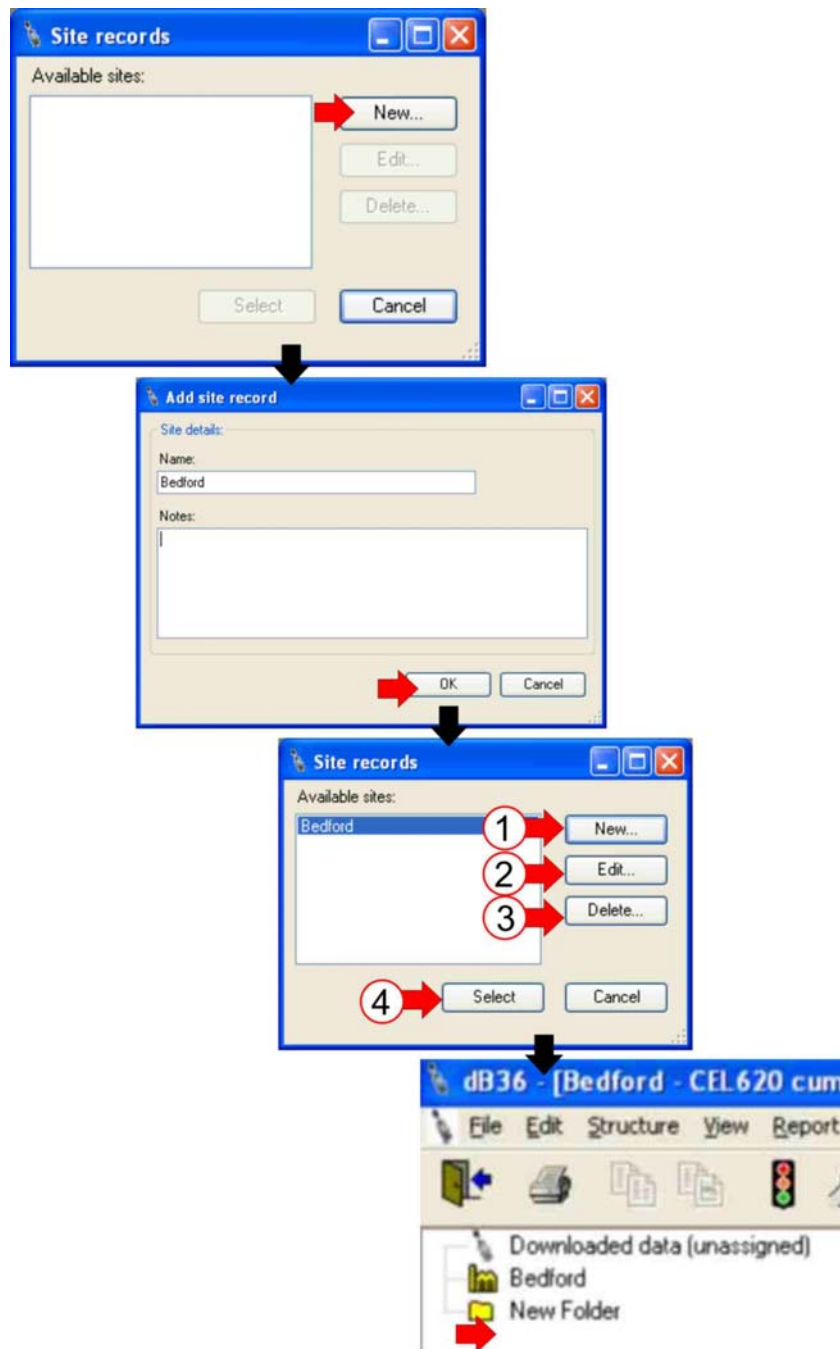

Figure 17 Add Site
2. ADD SITE (Refer to Figure 17).
- (A) Right click anywhere in the blank space below the CEL-6X0 icon, or on an existing tree node (location, process, etc) and select 'Add Site.'
- (B) The Site Records window will be displayed. Click **New**.
- (C) The Add New Site window is displayed. Type in the site name and add any notes as appropriate. Click **OK**.
- (D) The Site Records window is displayed. Click **New** (1) to add another site. Click **Edit** (2) to make changes to a site. Click **Delete** (3) to remove a site. Click **Select** (4) to add the named site.
- (E) The new site will be listed below the CEL-6X0.